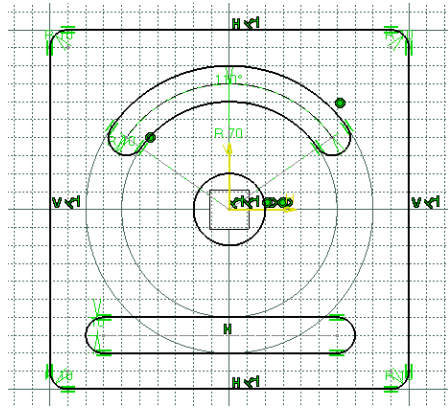

Figure 3-59 The final sketch
12. Enter the value **10** in the **Radius** edit box. Next, press the ENTER key; the final sketch is created, as shown in Figure 3-59. Now, click anywhere in the geometry area to make sure that the cylindrical elongated hole is no more selected.